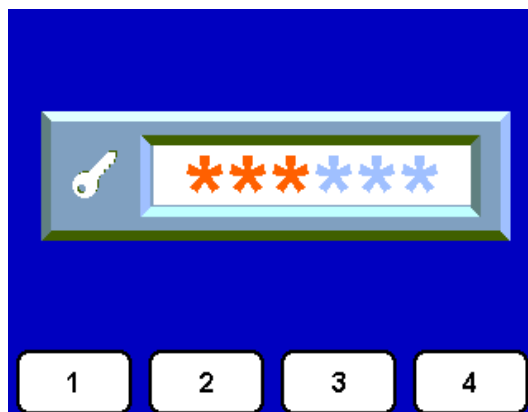

Fig 8
2. Press and hold (2) for 5 seconds for pass code screen Fig 8.